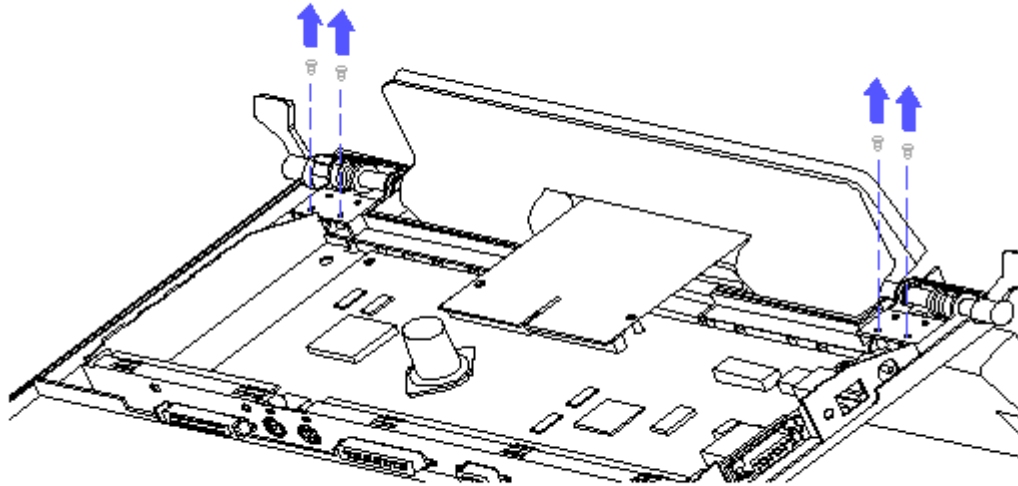

Figure 4-21. Clutch Mounting Bracket
3. Remove the two screws securing the clutch bracket to the base (Figure 4-21).